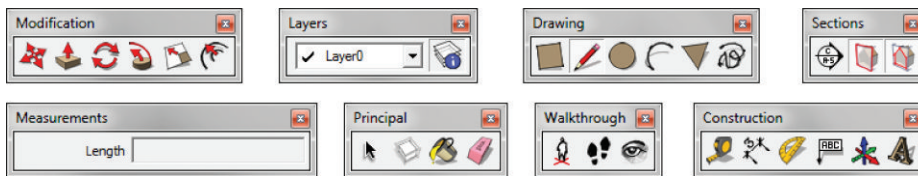

Figure 6.3 Suggested toolbars
- ❑ Monitors are enormous these days, so it is reasonable to allow yourself one row of toolbars across the top of your screen. Select View > Toolbars and open the following toolbars: Construction, Drawing, Layers, Measurements, Modification, Principal, Sections, and Walk-through (Figure 6.3). These toolbars are worth keeping open all the time. When you're performing specific tasks, you'll need to open other toolbars briefly, but you don't need to have them open at all times. Once you start working with your favorite tools, you'll be able to determine which toolbars you prefer to have open and accessible at all times.